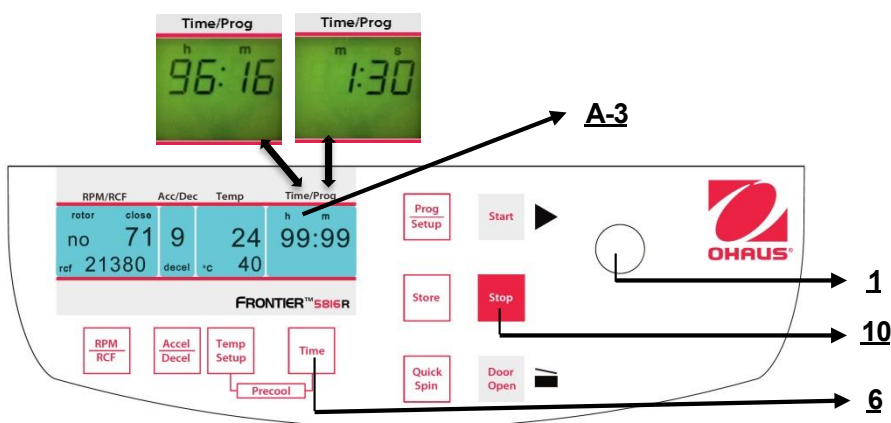

Figure. 17
3. The continuous run "cont", which can be interrupted by the key "Stop" (10) (refer to figure 17).
The display always shows the remaining running time. (See figure 17)